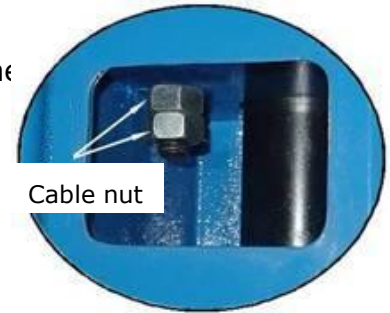

Fig. 32
1. Adjustment of synchronous cable (See Fig. 32)